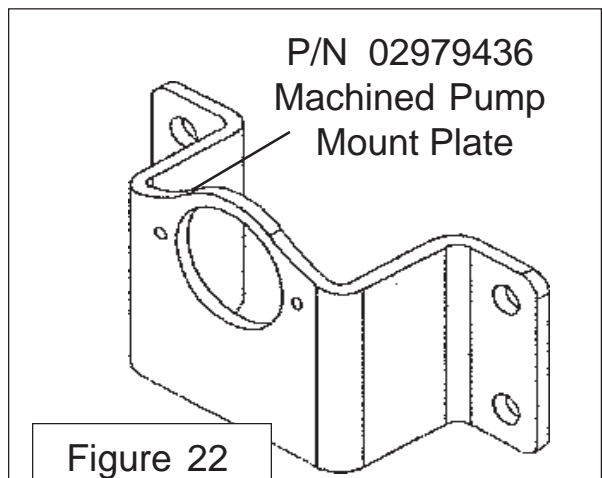

Figure 22
16. Install Machined Pump Mount Plate The machined pump mount plate (P/N 02979436) bolts to the front of the bolster in the four existing threaded bolt holes (See Figure 22). These bolt holes will have plastic plugs in them that will need to be removed (See Figure 14). The pump mount Plate (P/N 02979436) bolts to the tractor with 4 mounting bolts (Bolt P/N 02975692 - Hex Head M20-P2.5 X 50MM PL GR10.9 , Lockwasher P/N 02971158 - M20) tighten these four bolts down at this time (See Figure 25).